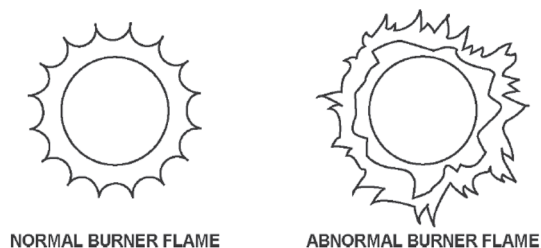

Figure 49. Normal and Abnormal Burner Flames
You should also check for sooting. Soot is not normal and will impair proper combustion. A visual inspection of the main burner and igniter assembly should also be done at least once a year. See **Figure 49**.
- Cause no excessive lifting of flame from burner ports. See **Figure 49**.